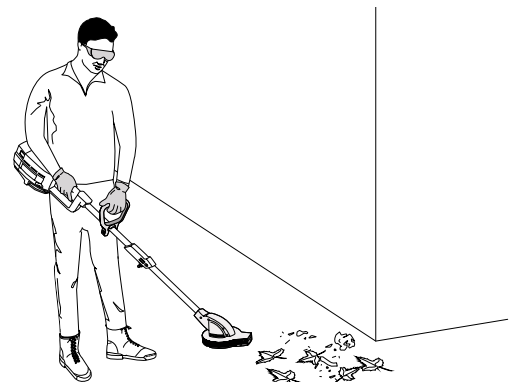

Fig. 12
- The blower is parallel to the ground and is positioned so debris is blown away from operator (Fig. 12).